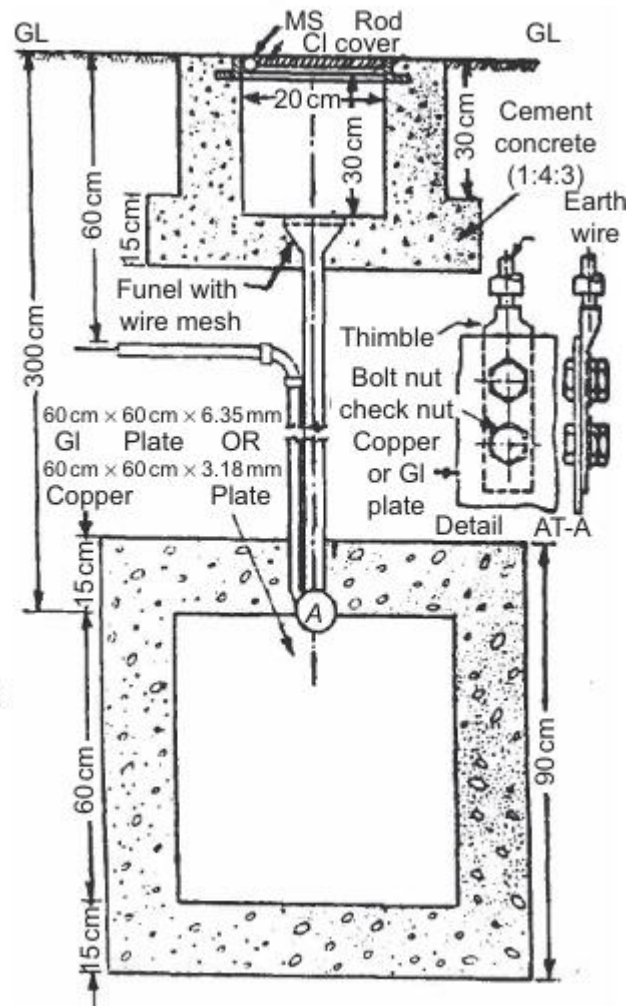

Fig. 1.6: Plate earthing
- 5) Plate earthing: In this type of earthing, a copper or G.I. plate of dimensions not less than 60 cm × 60 cm × 3.18 mm or 60 cm × 60 cm × 6.35 mm is used as earth electrode instead of G.I. pipe. The plate is buried into the ground in such a way that its face is vertical and the top is not less than 3 m below the ground level. The G.I. wire is used for G.I. plate and copper wire for copper plate earthing. The size of wire is selected according to the installation and fault current. The earthing lead is suitably protected by placing it underground in a pipe as shown in Figure 1.6. Alternate layers of charcoal and salt are used around the plate. The layers of charcoal shall be placed